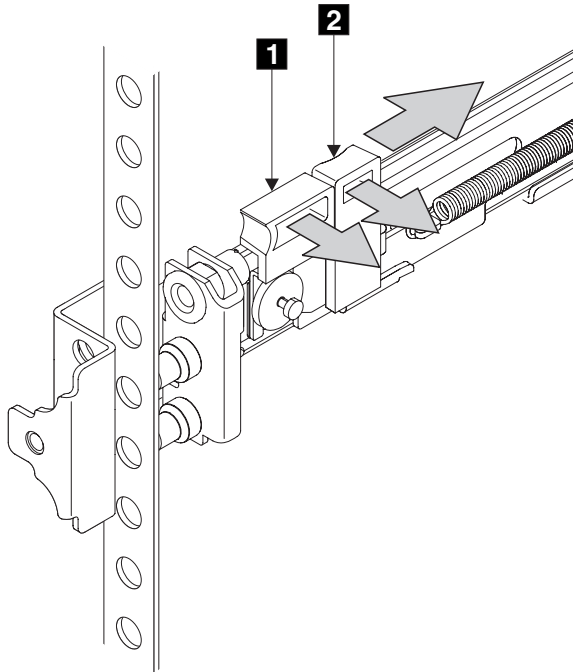

Figure 76. The left support rail for the SAN Volume Controller
2. Put your left index finger onto the back edge of the latch lever **2** and your left thumb on the front edge of the latch lock **1**, as shown in Figure 76 on page 354.